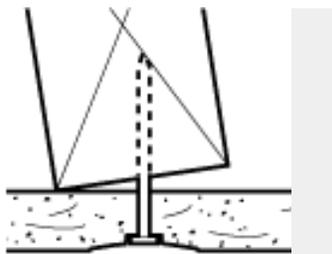

Fig. 3
**Cause:** Framing members have not been properly squared with plates, presenting angular nailing surface (Fig. 3). When panels are applied, there is danger of puncturing paper with fastener heads or of reverse twisting of member as it dries out, with consequent loosening of board and probable fastener pops. Warped or wet dimension lumber may contribute to deformity.